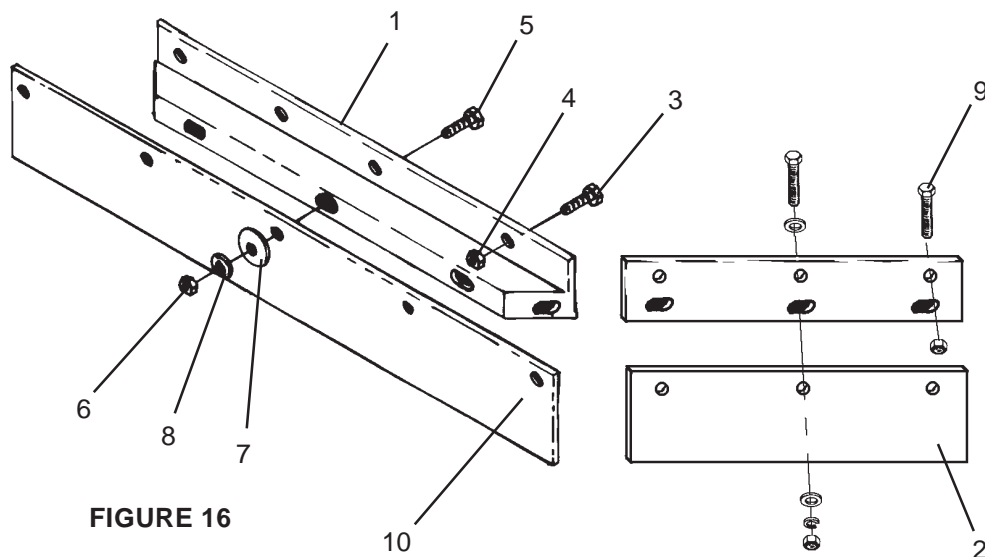

FIGURE 16
1. Attach Guard Bracket (1) to the front center section of the deck using 7/16" x 1-1/4" Bolts (3) and Locknuts (4). 2. Attach Deflector (10) to Guard Bracket using 3/8" x 1-1/2" Bolts (5), Woodwasher (7), Flatwasher (8), and Locknut (6) as shown in **Figure 16**.